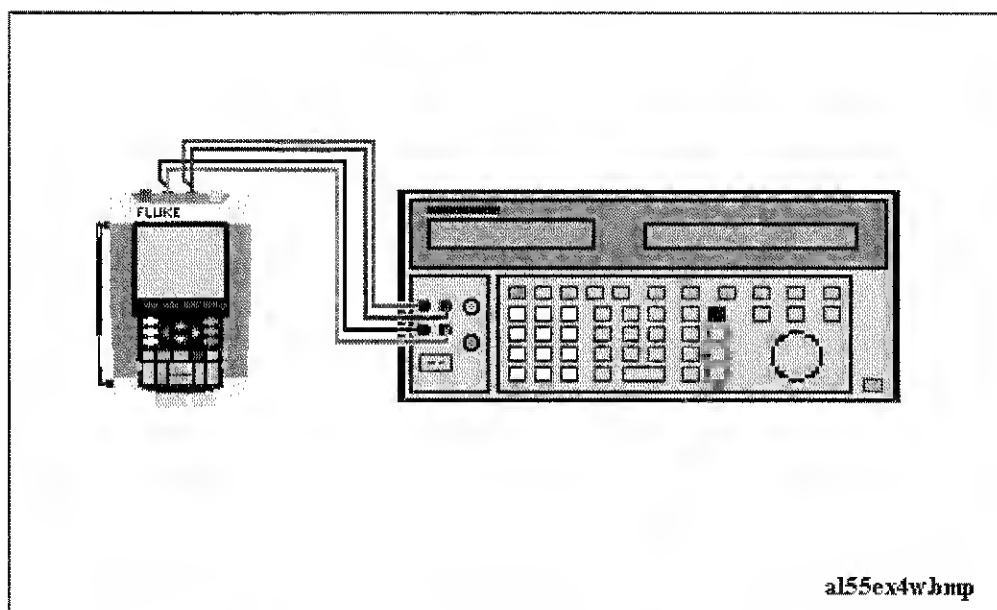

Figure 5-8. Four-wire Ohms calibration connections
2. Connect the test tool to the 5500A as shown in Figure 5-8.